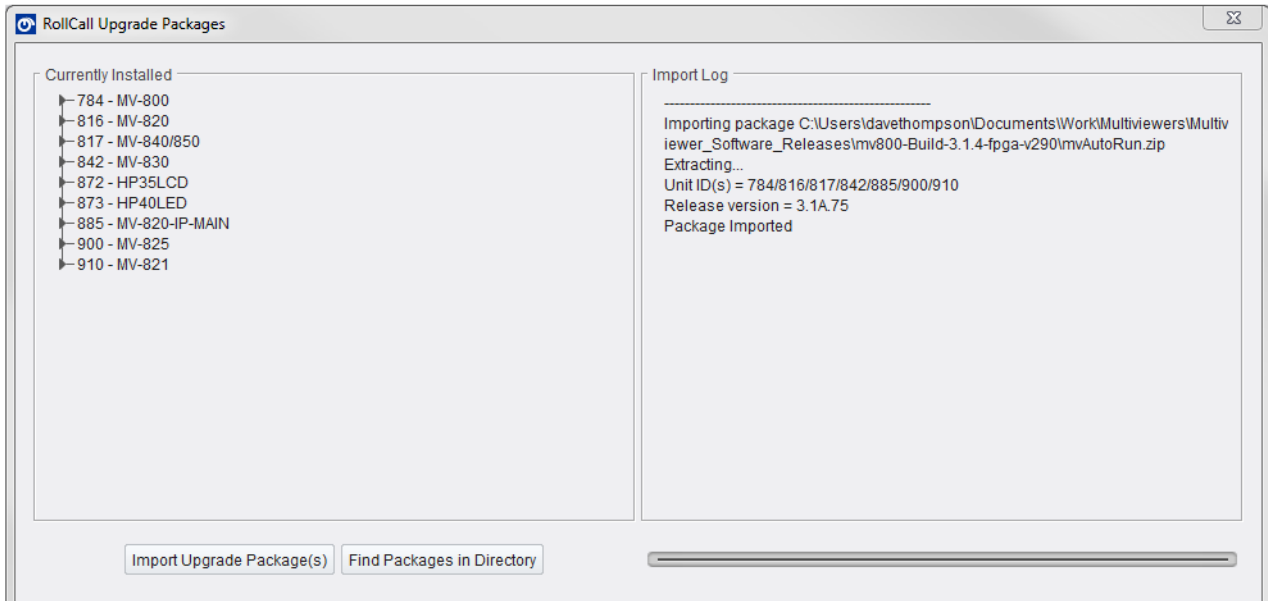

Fig. 8-7: Example RollCall Upgrade Packages Window - Import Log and Currently Installed Panes
- 6 A progress bar at the bottom of the **RollCall Upgrade Packages** window shows the upgrade package import progress. Import completion is reported in the **Import Log** pane. See Figure 8-7.